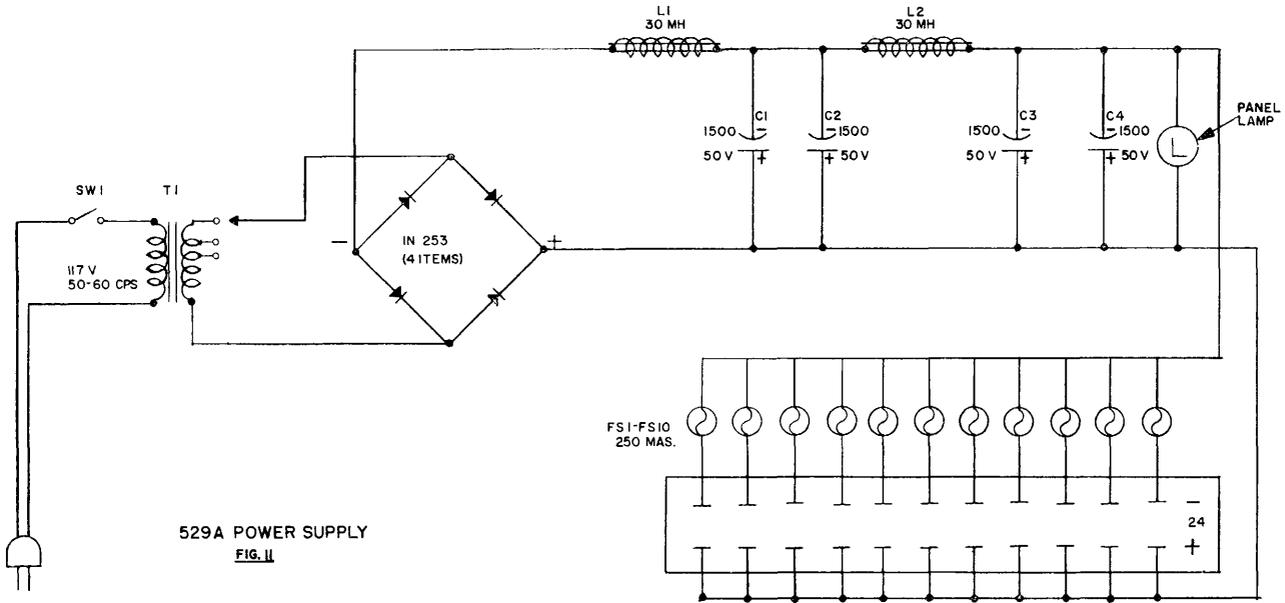

FIG. 3
2.03 Total Power consumption of an amplifier is 1/2 of 1 watt. Two power supplies are available. One type (533A) provides power for a single repeater, two repeaters and two such power supplies can be mounted in a standard 105 type apparatus box. A larger power supply (529A, Fig. 3) is available and is rack mounted. This larger type is capable of supplying power to 100 transistorized amplifiers.
3.08 Two power supply units are available. The 529A is capable of energizing up to a hundred amplifiers, while the 533A powers a single amplifier only. The 529A power supply delivers a total DC output of 2.5 amps. via ten busses, each fused at 250 ma. Figure 3 shows the circuit arrangement where the secondary of the power transformer is tapped to adjust the output voltage to 24 volts for any number of amplifiers. The rectifier is a bridge type and uses silicon rectifiers. A two-stage filter reduces the ripple to a level of a few millivolts. A distribution block is located on the rear of the panel. The front panel includes a power switch, pilot lamp ten low voltage fuseholders and a fuse designation strip. A